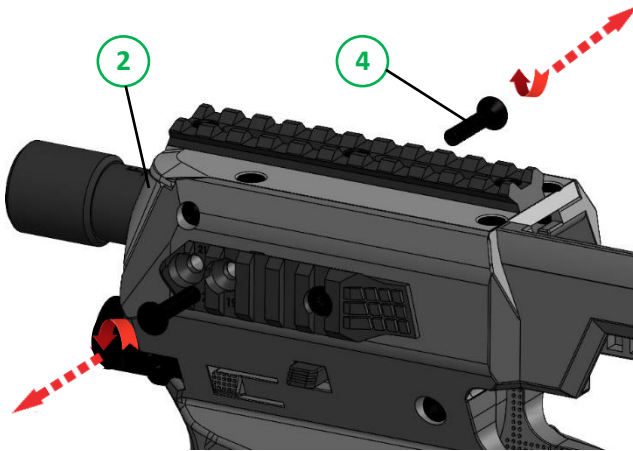
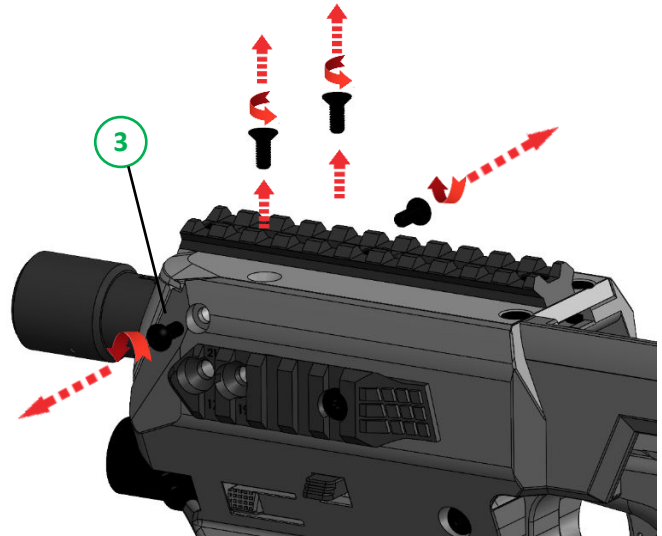

FIGURE 47
FIGURE 48
To clean the brushes that are inside the front aluminum tube housing (2), you will need to unscrew the front aluminum tube screw (4) (x2) using a 3mm Allen wrench (FIGURE 47). Then unscrew the front aluminum tube housing screw (3) (x2) and the top front picatinny rail screw (x2) using a 2.5mm Allen wrench (FIGURE 48).